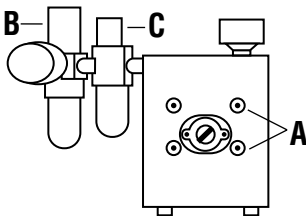

Fig. 1 Front view of drive
2. Install pressure gauge, pressure regulator/lubricator/filter assembly (B, C) and muffler (D). See Figures 1 and 2 for proper orientation. (All items and fittings included.) Use thread seal for all connections to reduce the possibility of air leakage.
3. Connect compressed air line to 1/4 NPT(F) connection on regulator (or use adapter for 3/16 in ID hose provided).